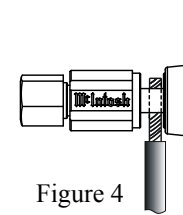

Figure 4
12. For the MC275 MONO Mode of operation, use the supplied Jumper Bars for connecting the Output of the Left and Right Amplifier Channels in parallel. Insert the Jumper Bar into the terminal side access hole of the LEFT OUTPUT (-) Negative Terminal post and the other end of the Jumper Bar into the RIGHT OUTPUT (-) Negative Terminal post. Tighten the terminal caps until the Jumper Bar is firmly clamped into the terminals so the Jumper Bar cannot slip out nor touch the chassis. Refer to Connection Diagram located on the separate folded sheet "Mc1B". Also refer to figures 4, 5 and figure E.